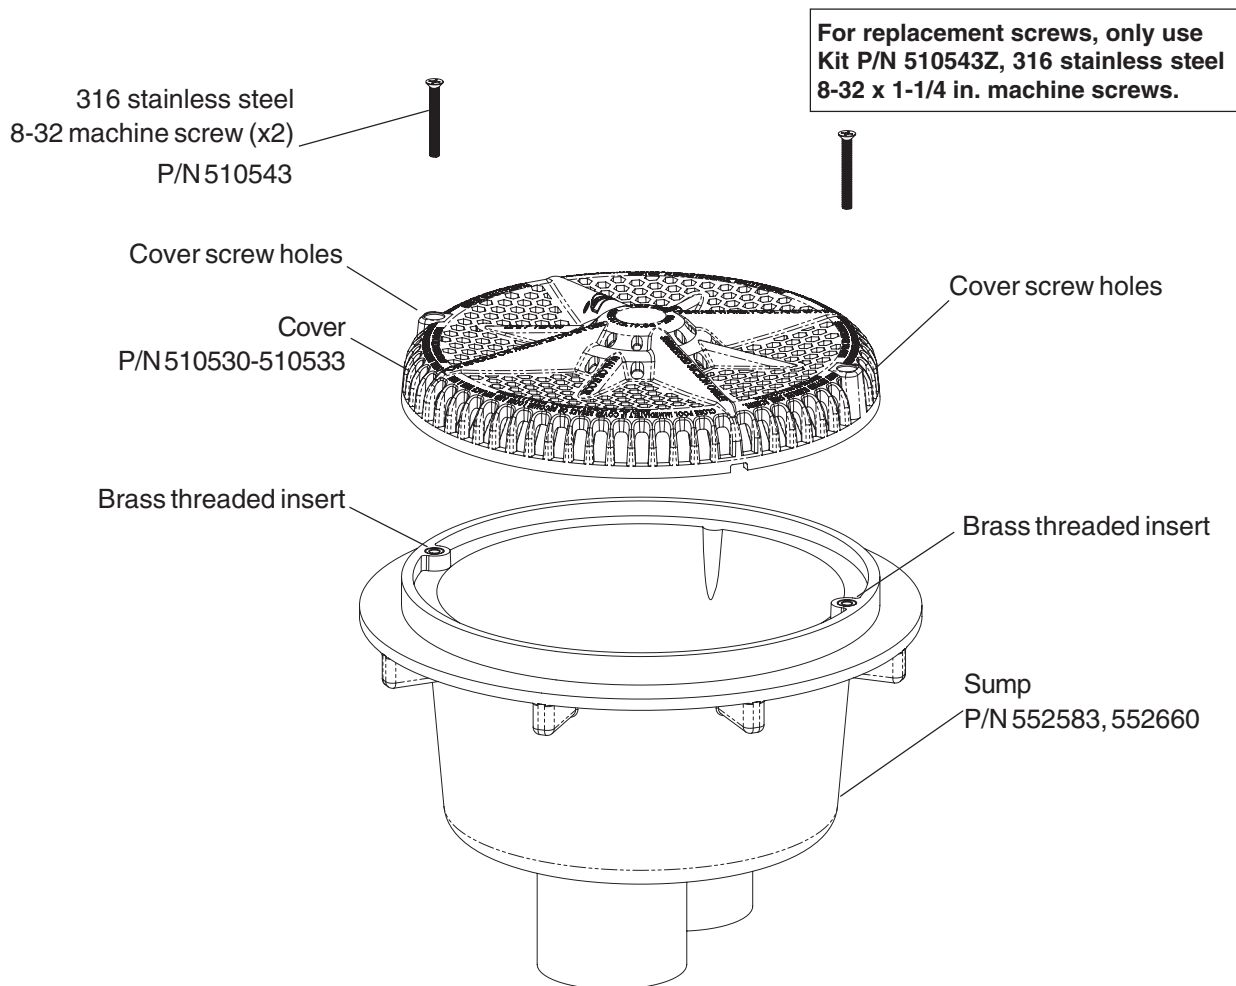

Figure 1
- Mount the drain cover on top of the sump (see Figure 1).
- Install the two (2) 316 stainless steel 8-32 machine screws (provided) into the holes in the top of the cover. Using a No. 2 Philips head screwdriver, tighten each retaining screw to a **torque value of 10.00 (minimum) to 15.0 (maximum) in-lbs** to secure the cover. DO NOT OVER TIGHTEN THE SCREWS. DO NOT ASSEMBLE WITH POWER TOOLS.